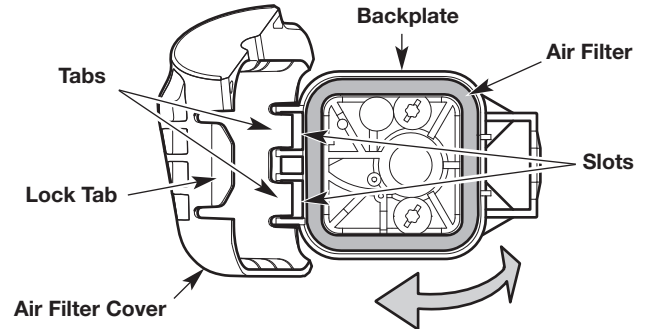

Fig. 10
1. Open the air filter cover: press in the lock tab and swing the air filter cover to the left (Fig. 10).
2. Remove the air filter (Fig. 10).
6. Reinstall the air filter (Fig. 10).
7. Close the air filter cover: insert the tabs on the air filter cover into the slots on the backplate. Swing the air filter cover to the right and press it closed until the lock tab snaps into place (Fig. 10).